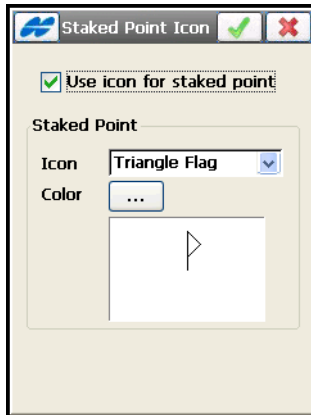

Figure 3-53. Staked Point Icon
- *Display*: opens the *Staked Point Icon* screen (Figure 3-53 on page 3-53) to set an icon for the staked point.
The *Staked Point Icon* screen selects options to display the icon for the staked point on the map (Figure 3-53).